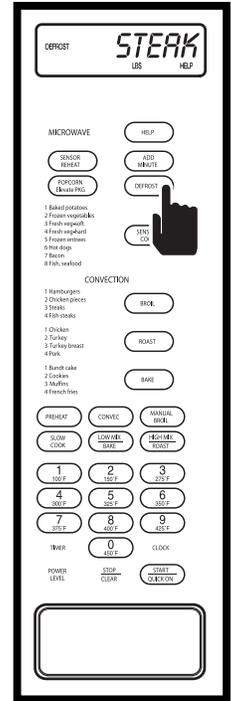

Figure 3-52.
2. Select desired food by pressing the DEFROST key until display shows the food name. For example: The display will flash “ STEAK - ENTER - WEIGHT ”. (See Figure 3-52)